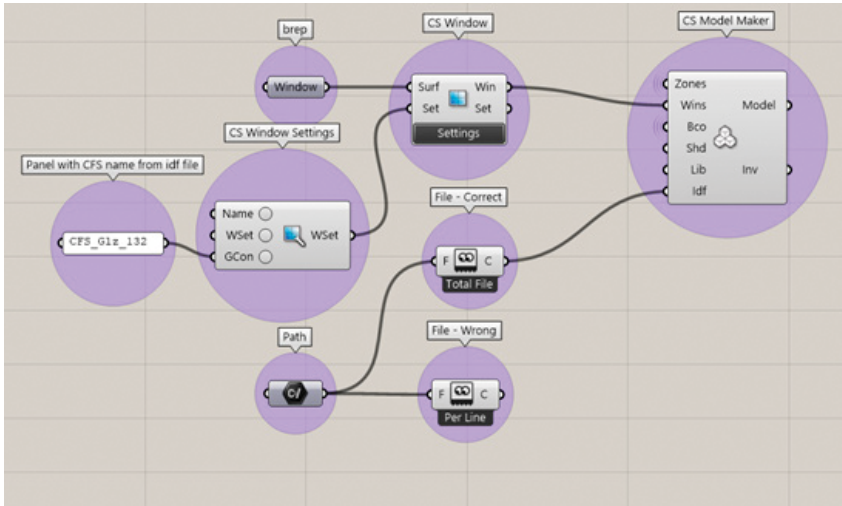

Figure 6 Connect window and .idf file to the "CS Model Maker" component
Step 5: Connect your zone and boundary conditions with the recently made "CS Window" to the component "CS Model Maker" (See figure 6). Add the two components "File" and "Path" to your canvas. Set the path to the idf file you wish to simulate (the same in which you found the CFS name) by right clicking on the component and selecting "Select one existing file" (See figure 5 left). Then right click on the "File" component and uncheck "Per line", the component should now write "Total File" below (See figure 5 right). **It is important that you uncheck "Per line" before connecting it to anything, to avoid the script from crashing.** Connect the path to file and the file to the idf input in the "CS Model Maker" component (See figure 6).